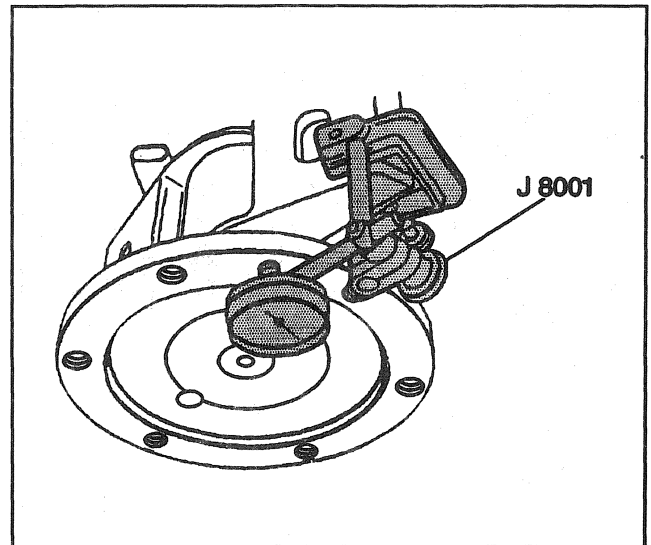

Figure 49—Measuring Axle Shaft End Play
Measure (Figure 49)
1. Install a dial indicator (J 8001) or equivalent on the axle tube end. The plunger of the indicator must be at a right angle to the axle flange (Figure 49).